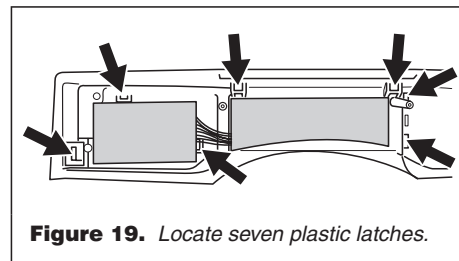

Figure 19. Locate seven plastic latches.
- The console electronics and housing assembly is held to the decorative piece by seven plastic latches. See figure 19.